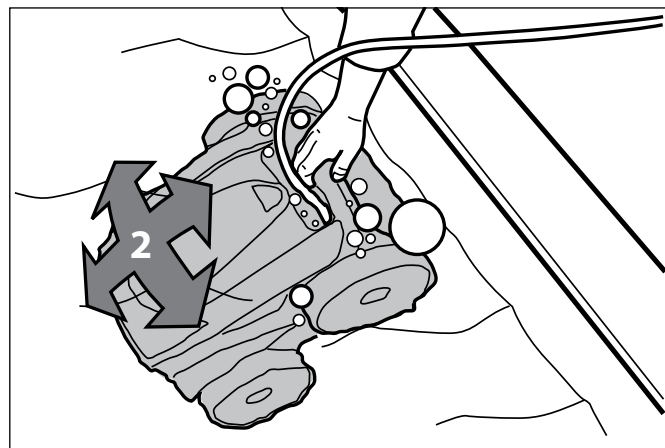

Figure 16. Cleaner Sinking to the Bottom of the Pool
2. Ensure the unit sinks to the bottom of the pool and does not float (Figure 16).